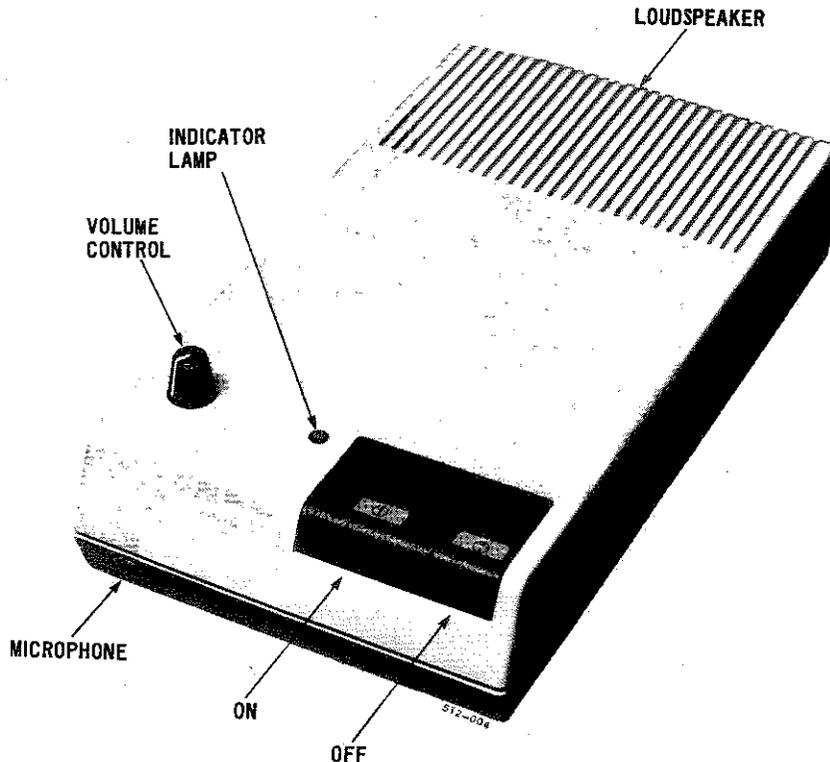

Fig. 1 - QUSIA - COMPANION 1 - HFU
- QUS1A COMPANION 1 (Fig. 1) – a cord connected unit, primarily used in residential locations
2.13 *QUSIA, COMPANION 1 (Fig. 1)*. This unit is designed for use with single line, rotary or pushbutton dial residential telephone sets. The unit, which incorporates basic hands-free service is equipped with only two control keys: - ON and OFF. This model does not include on-hook dialing, automatic transfer, hold, or transmit muting. The unit is equipped with a 4-conductor, NE-D4QD, retractile, mounting cord for connection to the associated telephone set and power source.